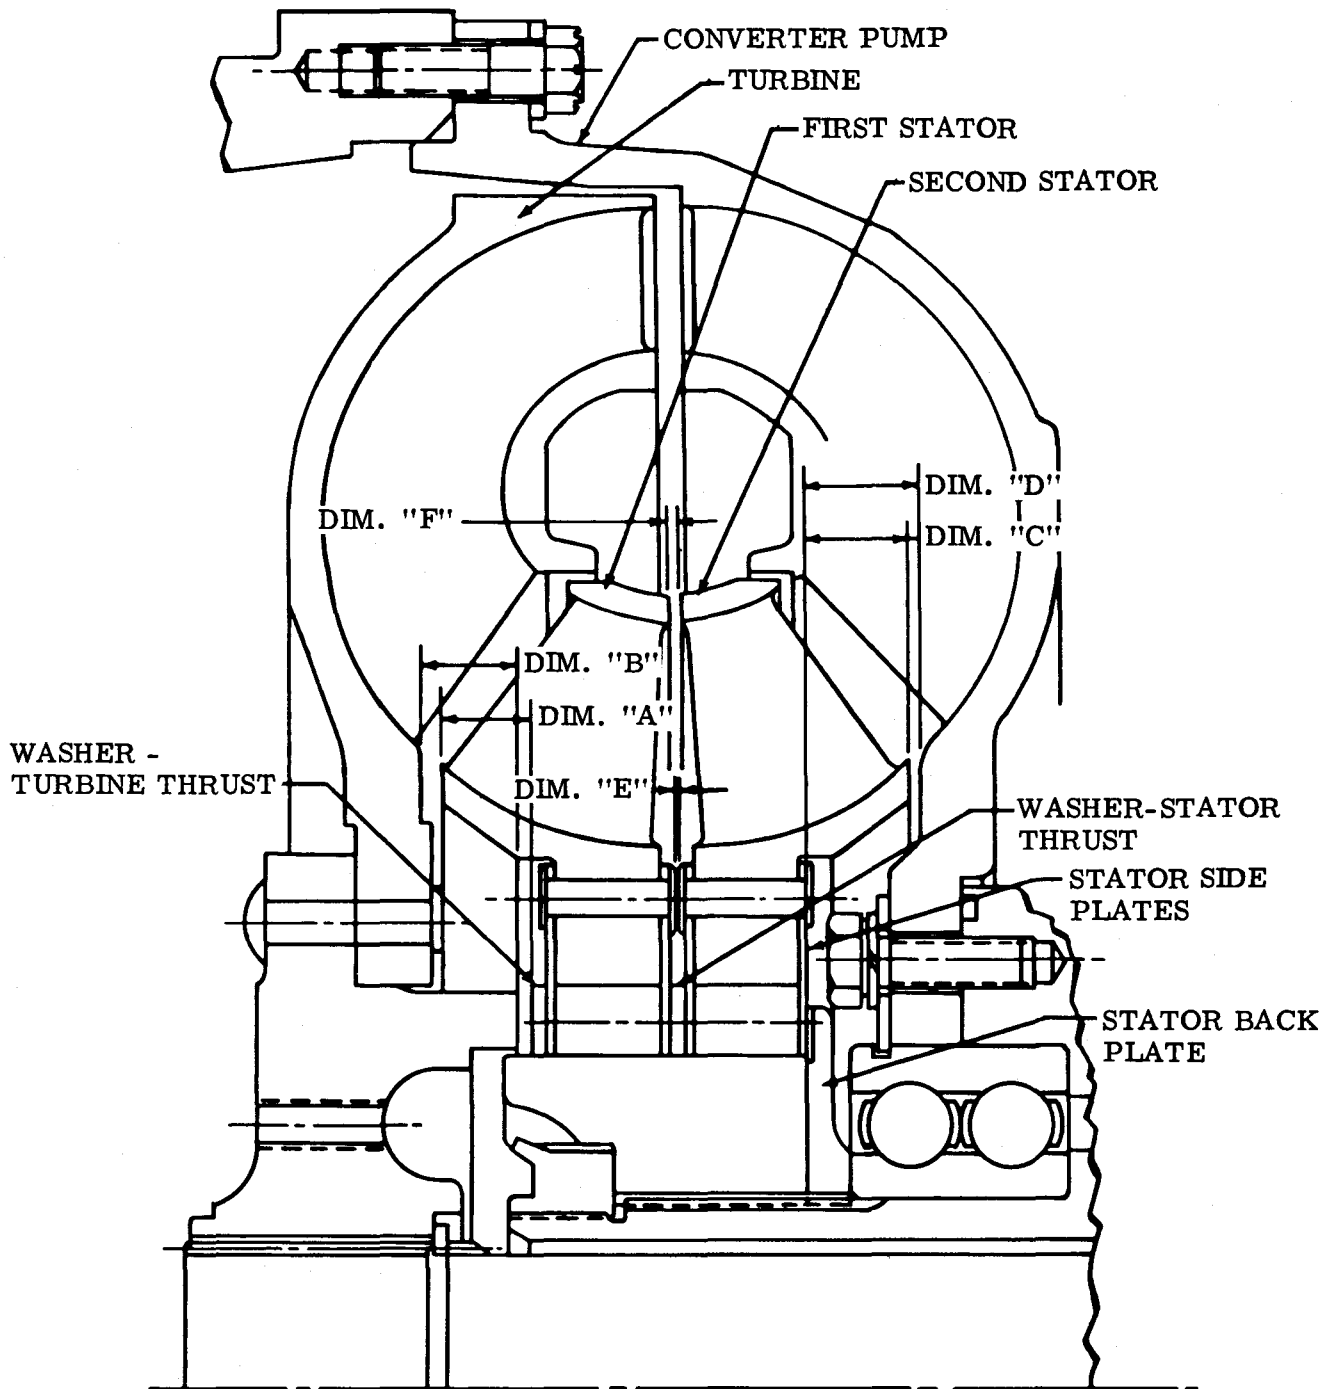

Fig. 8-1. Four-element torque converter clearances
(1) Dimensions which must be checked to assure proper running clearances between torque converter elements are indicated in figure 8-1. They are as follows:
(refer to fig. 8-1 for assembly clearance limits)